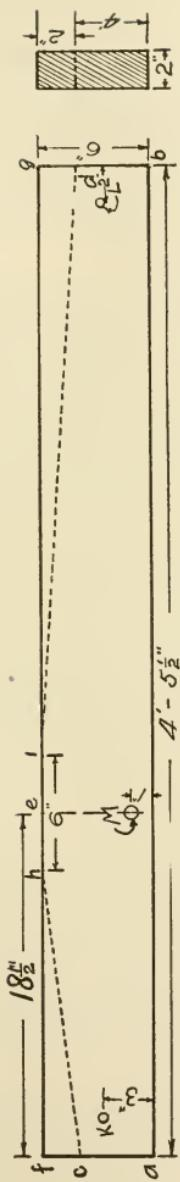
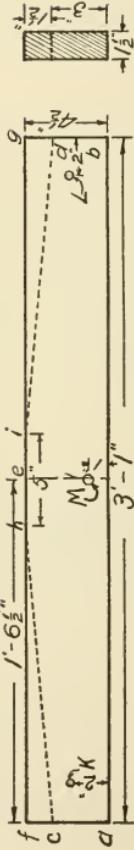
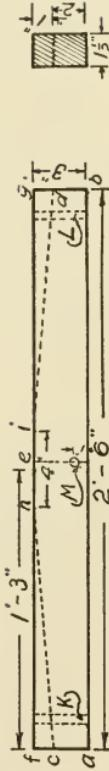

FIG. 94.—THREE HORSE EVENER.
FIG. 95.—DOUBLETREE.
FIG. 96.—SINGLETREE.
1. Laying out evener. — Lay out point *c* $2''$ from point *f*, Fig. 94. Lay out point *d* $2''$ from point *g* at the other end. Square across both ends at these points. Lay out point *e* $18\frac{1}{2}''$ from *f* and square across one surface. $3''$ from *e* on either side locate
2. Laying out doubletree. — Lay out point *c* $1\frac{1}{2}''$ from point *f*, Fig. 95. Lay out point *d* $1\frac{1}{2}''$ from point *g* at the other end. Square across both ends at these points. Lay out point *e* $1' 6\frac{1}{2}''$ from each end and square across one surface. From *e* lay out points *h* and *i* $2\frac{1}{2}''$ on each side. Connect points *c* and *h* with lines on both surfaces, also points *d* and *i*. Locate holes at *K* and *L* by measuring in from both ends $2''$ and up from the lower edge $2''$. Locate hole at *M* $1''$ up from the lower edge on line squared across from *e*.
3. Laying out singletrees. — Lay out *c* $1''$ from *f*, Fig. 96, and *d* $1''$ from *g*, and square across the ends at these points. Lay out *e* $1' 3''$ from each end and square across one surface. $2''$ on either side of *e* locate *h* and *i*. Connect *c* and *h* with lines on both surfaces; connect also *d* and *i*. Locate hole *M* by measuring up from lower edge $1''$ on line squared across from *e*. If hooks as shown in Fig. 208, page 233, are desired, then locate the holes shown in the drawing. If hooks as shown in Fig. 209, page 234, are wanted, then the ends of the singletrees should be rounded to fit the same, or $1\frac{3}{4}''$ in diameter.
4. Sawing and boring. — Bore $\frac{3}{4}''$ holes at *K* and *L* and $1''$ hole at *M* (Fig. 94). Bore $\frac{1}{2}''$ holes at *K* and *L* and $\frac{3}{4}''$ hole at *M* (Fig. 95). Bore $\frac{1}{2}''$ hole at *M* (Fig. 96).
Rip along the lines *ch* and *di* in Figs. 94, 95, 96, and plane smooth.